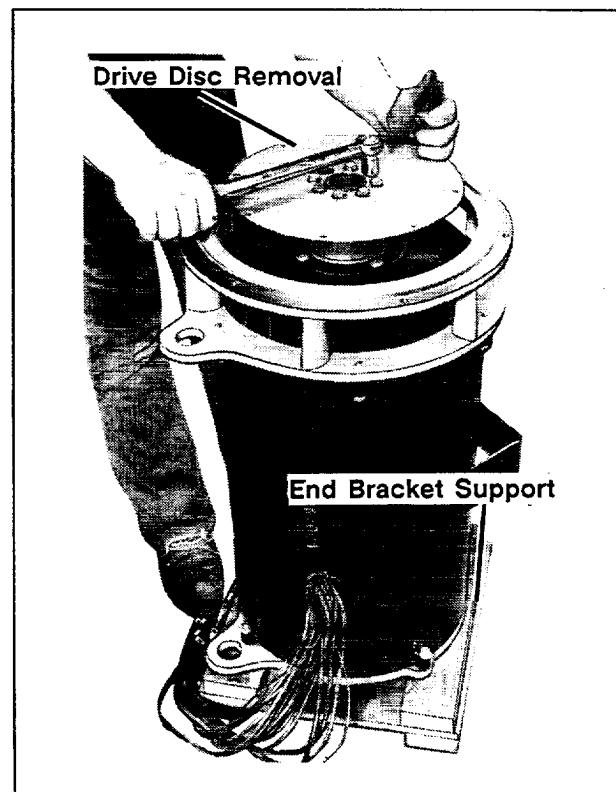

Figure 3. Generator Support/Drive Disc and Fan Removal
10. Remove drive discs and fan from generator assembly as shown in Figure 3.